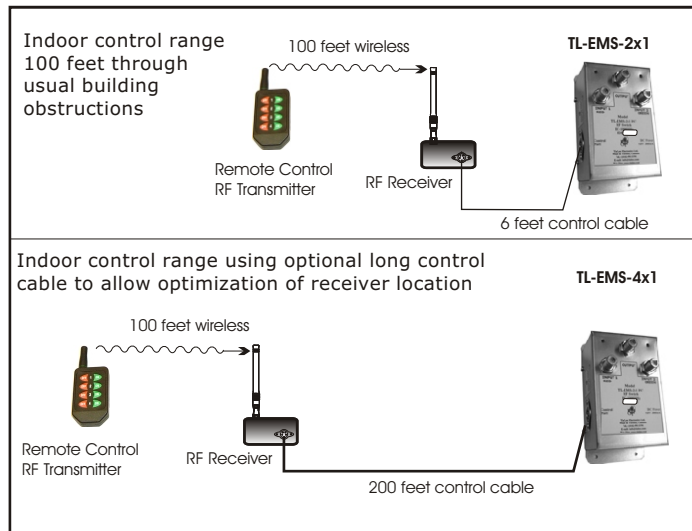

Figure 2: Remote Control Range
The TL-EMS-2x1 is a high performance RF switch. It is an RF Switch with two inputs and one output. It is operated by RF remote control (see fig. 2). It is nondirectional, therefore, the two inputs can be used as outputs. Operating bandwidth is DC to 1000 MHz.
**Indoor Control distance** is up to 100 ft, through typical building materials (non-metallic). Indoor control distance can be increased by locating the RF receiver (Rx) away from the Switch box (up to 300' using optional 200' control cable - figure 2); Unobstructed control distance is up to 1000 feet.